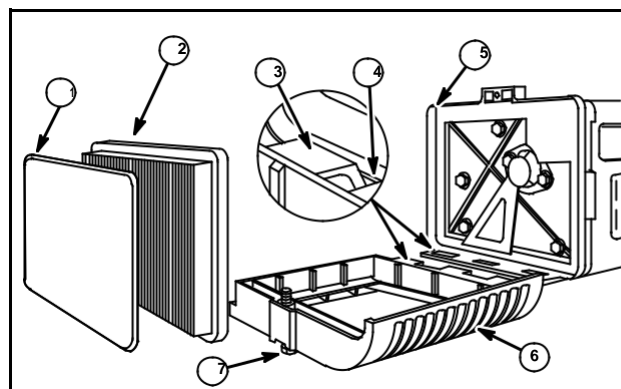
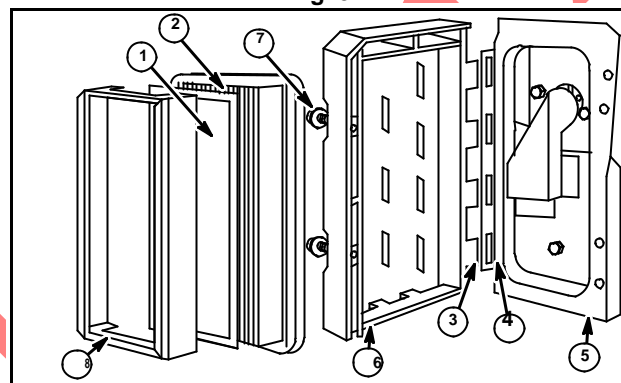

Fig. 9
Fig. 10
Flat Cartridge (Figs. 9, 10)
1. Loosen screw(s) (7) and remove cover (6). Tilt to remove covers with tabs (3) and slots (4), Fig. 9.
2. Carefully remove cartridge (2) and foam pre-cleaner (1) if equipped.
3. Clean pre-cleaner (1) as described on page 11.
5. Close cover (6) and fasten screw(s) (7) securely. Tabs in cover (3) (if present) must be in slots (4) of back plate (5), Fig. 10.